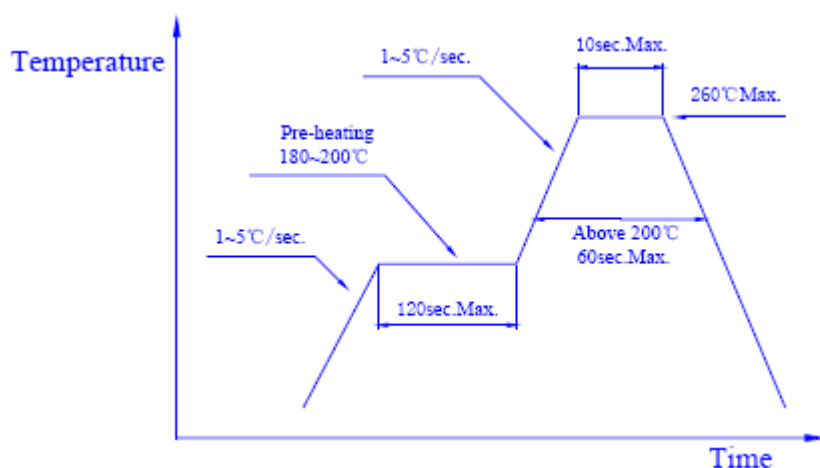

Fig.3
② Reflow soldering:
a. The temperature profile as shown in Fig.3 is recommended for soldering SMD LED by the reflow furnace.